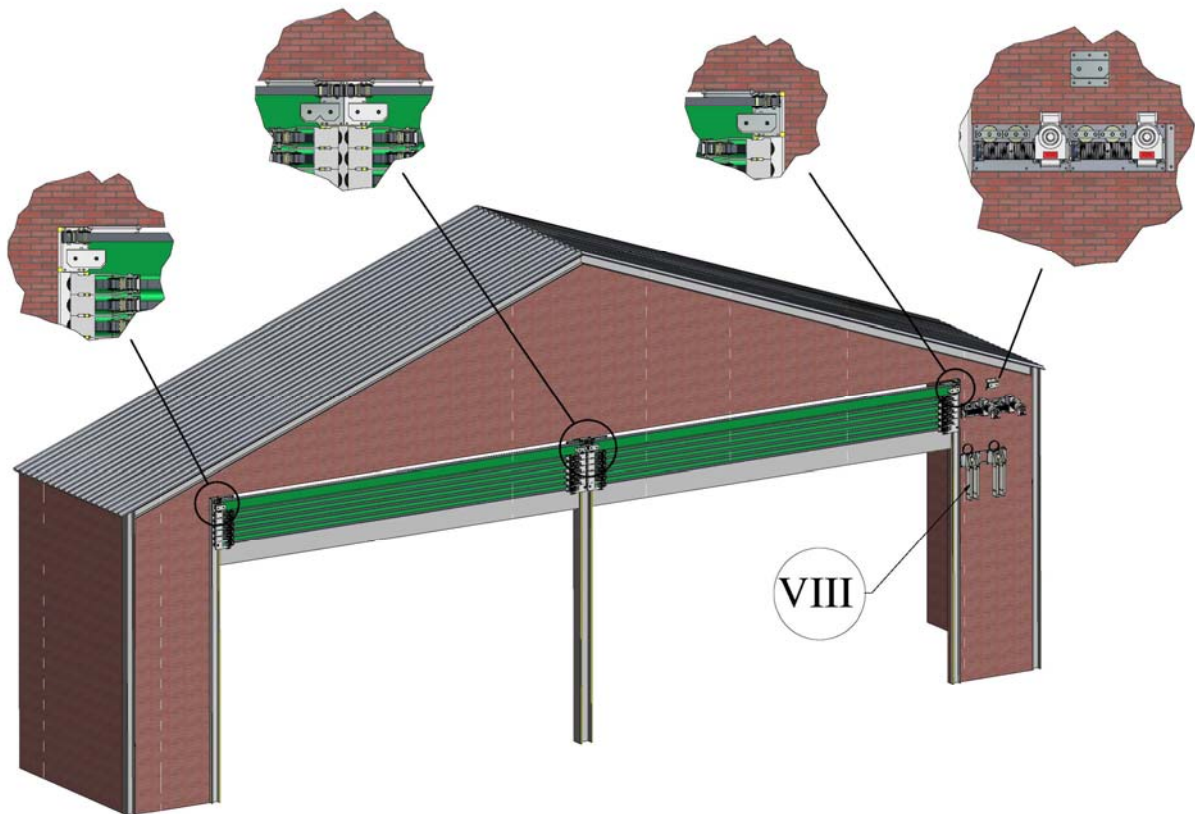

Figure 10c Adjacent Drives
- ❖ If both drives are to be mounted on extreme left or right then the minimum width of the central tracking is 250mm, and approximately 1350mm is required to accommodate the adjacent drives (Figure 10c). If this option is required contact your Galebreaker Dealers, Distributor or Head Office for details of the additional parts.